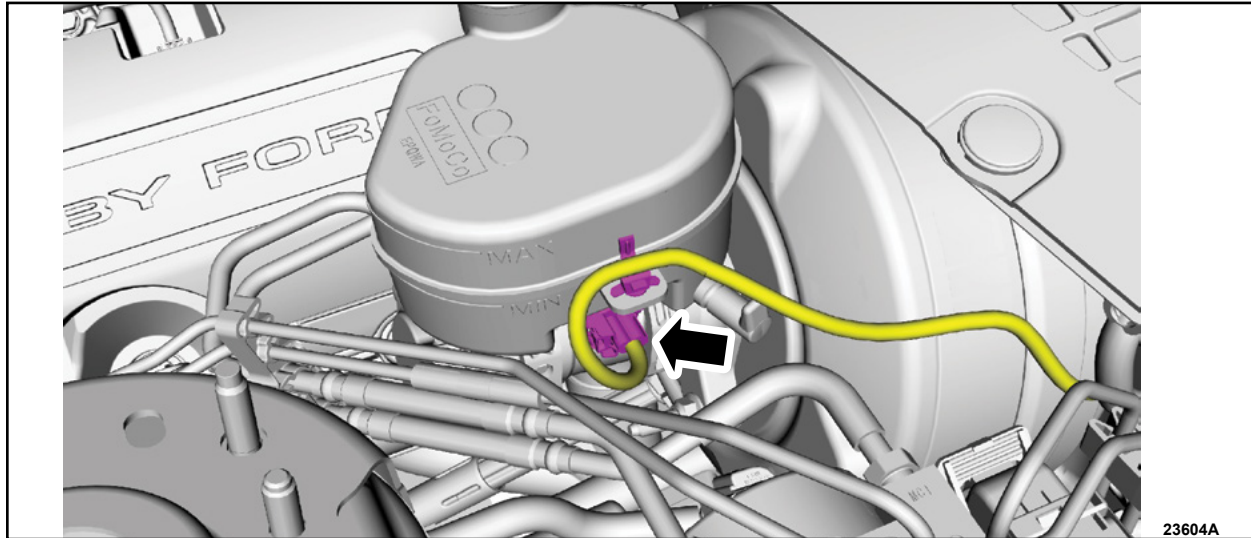

FIGURE 3
8. Disconnect the brake fluid level sensor electrical connector. See Figure 3.